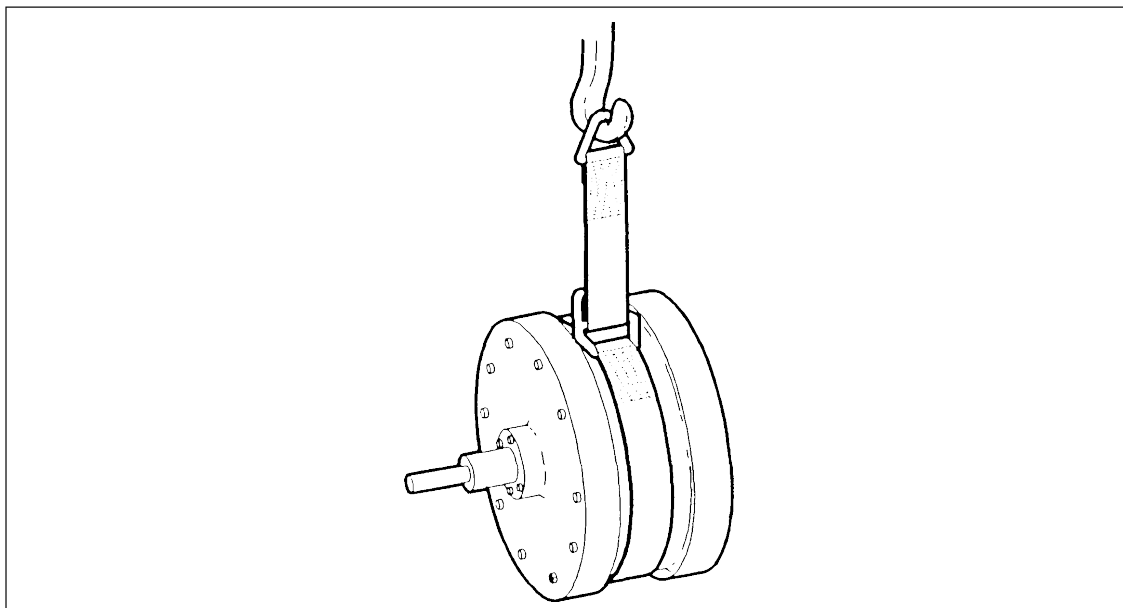
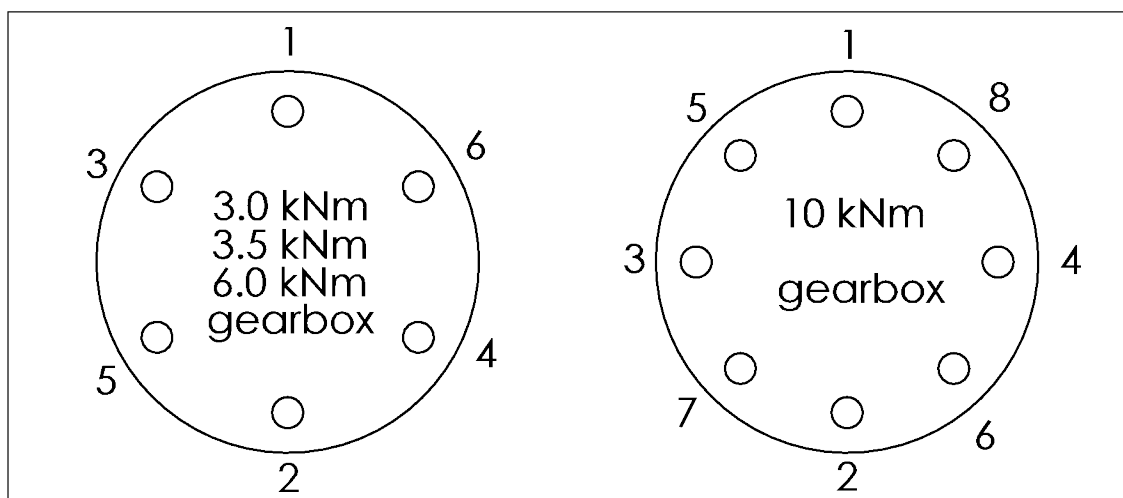

Figure 4.1.6
Figure 4.1.7
4.1.7 Remove Gearbox (Fig. 4.1.6)
ATTENTION  When removing or installing the gearbox, always suspend it from a hoist or the like to avoid excessive load to the splined shaft. Use the lifting sling* as shown in Figure 4.1.6.
Remove the six / eight screws / 10 screws (M16) / 16 screws (see Figure 4.1.7) connecting the gearbox to the gearbox adapter. Place the sling* as shown in Figure 4.1.6.
4.1.8 Install Gearbox (Fig. 4.1.7)
3.0 kNm Gearbox Insert the six / eight / 16 screws assembling the gearbox adapter to the gearbox and tighten them to a torque of 197 Nm (1743 in-lbs) in the sequence indicated in Figure 4.1.7. No certain tightening sequence to be followed when tightening the 16 screws inserted in the 16 kNm gearbox.